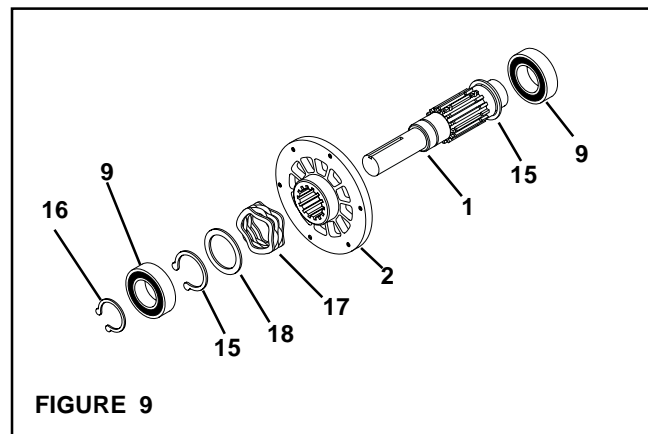

FIGURE 9
6. Remove the Retaining Ring (Item 16) from the Shaft (Item 1) (See Figure 9).
7. Press both old Ball Bearings (Item 9) off the Shaft (Item 1) (See Figure 9).
8. Remove the Retaining Ring (Item 15) from the Shaft (Item 1) (See Figure 9).
9. Slide the Washer (Item 18) and Waved Spring (Item 17) from the Shaft (Item 1); then, install the new Waved Spring and reinstall the Washer (See Figure 9).
10. Reinstall the Retaining Ring (Item 15) (See Figure 9).
12. Reinstall the Retaining Ring (Item 16) (See Figure 9).